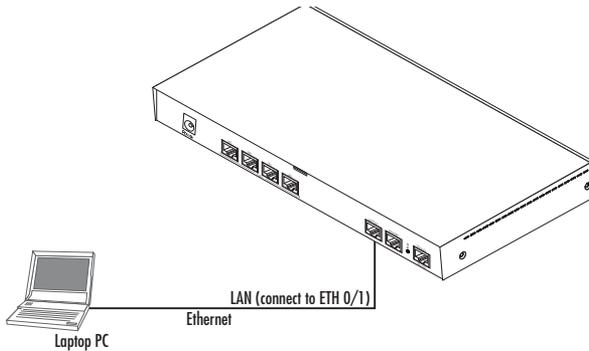

Figure 1. Connecting to the PC
1. Connect the PC's Ethernet port to *LAN (ETH 0/1)* port of the SmartNode 4950-NCE. The SmartNode 4950-NCE Series is equipped with Auto-MDX Ethernet ports, so you can use straight-through or cross-over Ethernet cables for host or hub/switch connections. (See figure 1.)